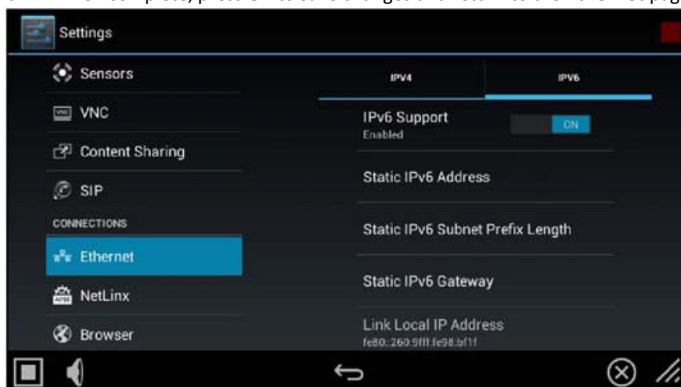

FIG. 60 Ethernet page (IPv6 tab)
- When complete, press **OK** to save changes and return to the Ethernet page - IPv6 tab (FIG. 60):